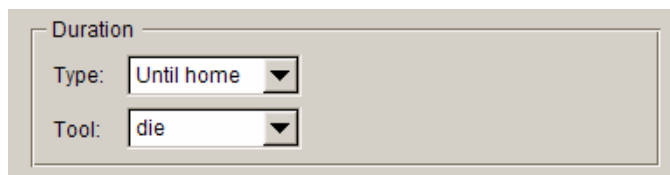

Figure 8.2.76 Until home
**UNTIL HOME** Facilitate the movement of selected tool to home position. The user needs to select a moving tool from the tool list as shown in Figure 8.2.76.